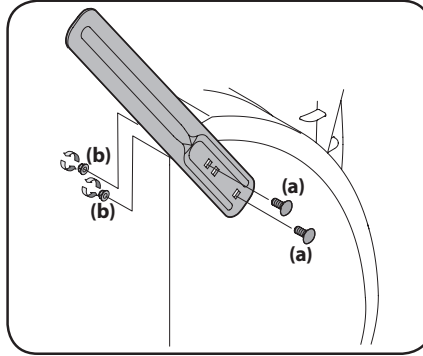

Figure 2-44
1. Remove two screws (a) and lock nuts (b) that secure each drift cutter, and remove them from the sides of auger housing. See Figure 2-44.
2. Turn the drift cutters around and position them as shown in Figure 2-44 to the outside of the auger housing.